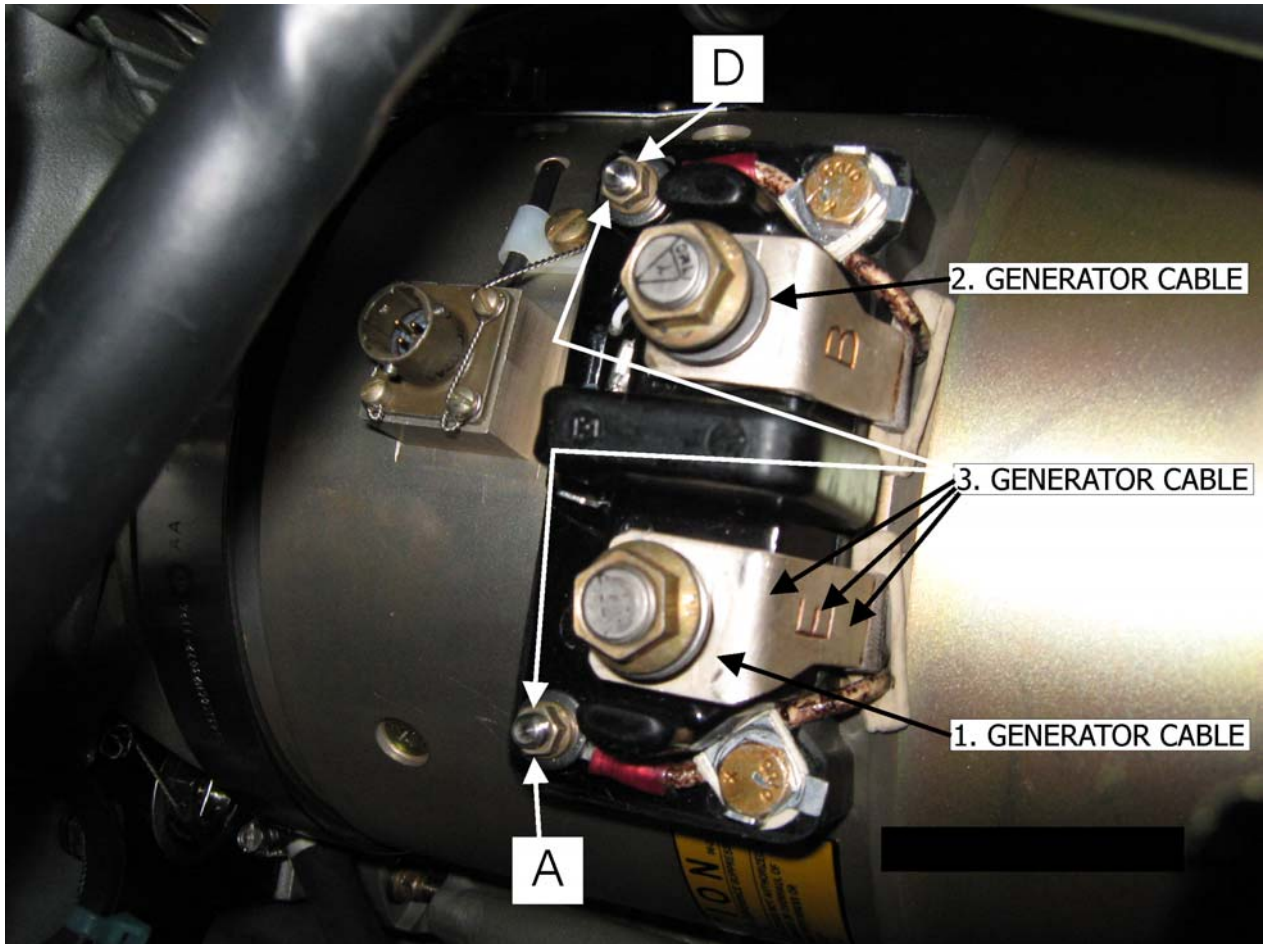

Fig. 214 - LH Generator Power Cables - Repositioning (Airplane SN 1181 +)(Sheet 4 of 7)
- (6) Perform the connection Generator Cables on the "A" and "B" Generator Stud as follows (Refer to Fig. 214 Sheet 5 of 7):